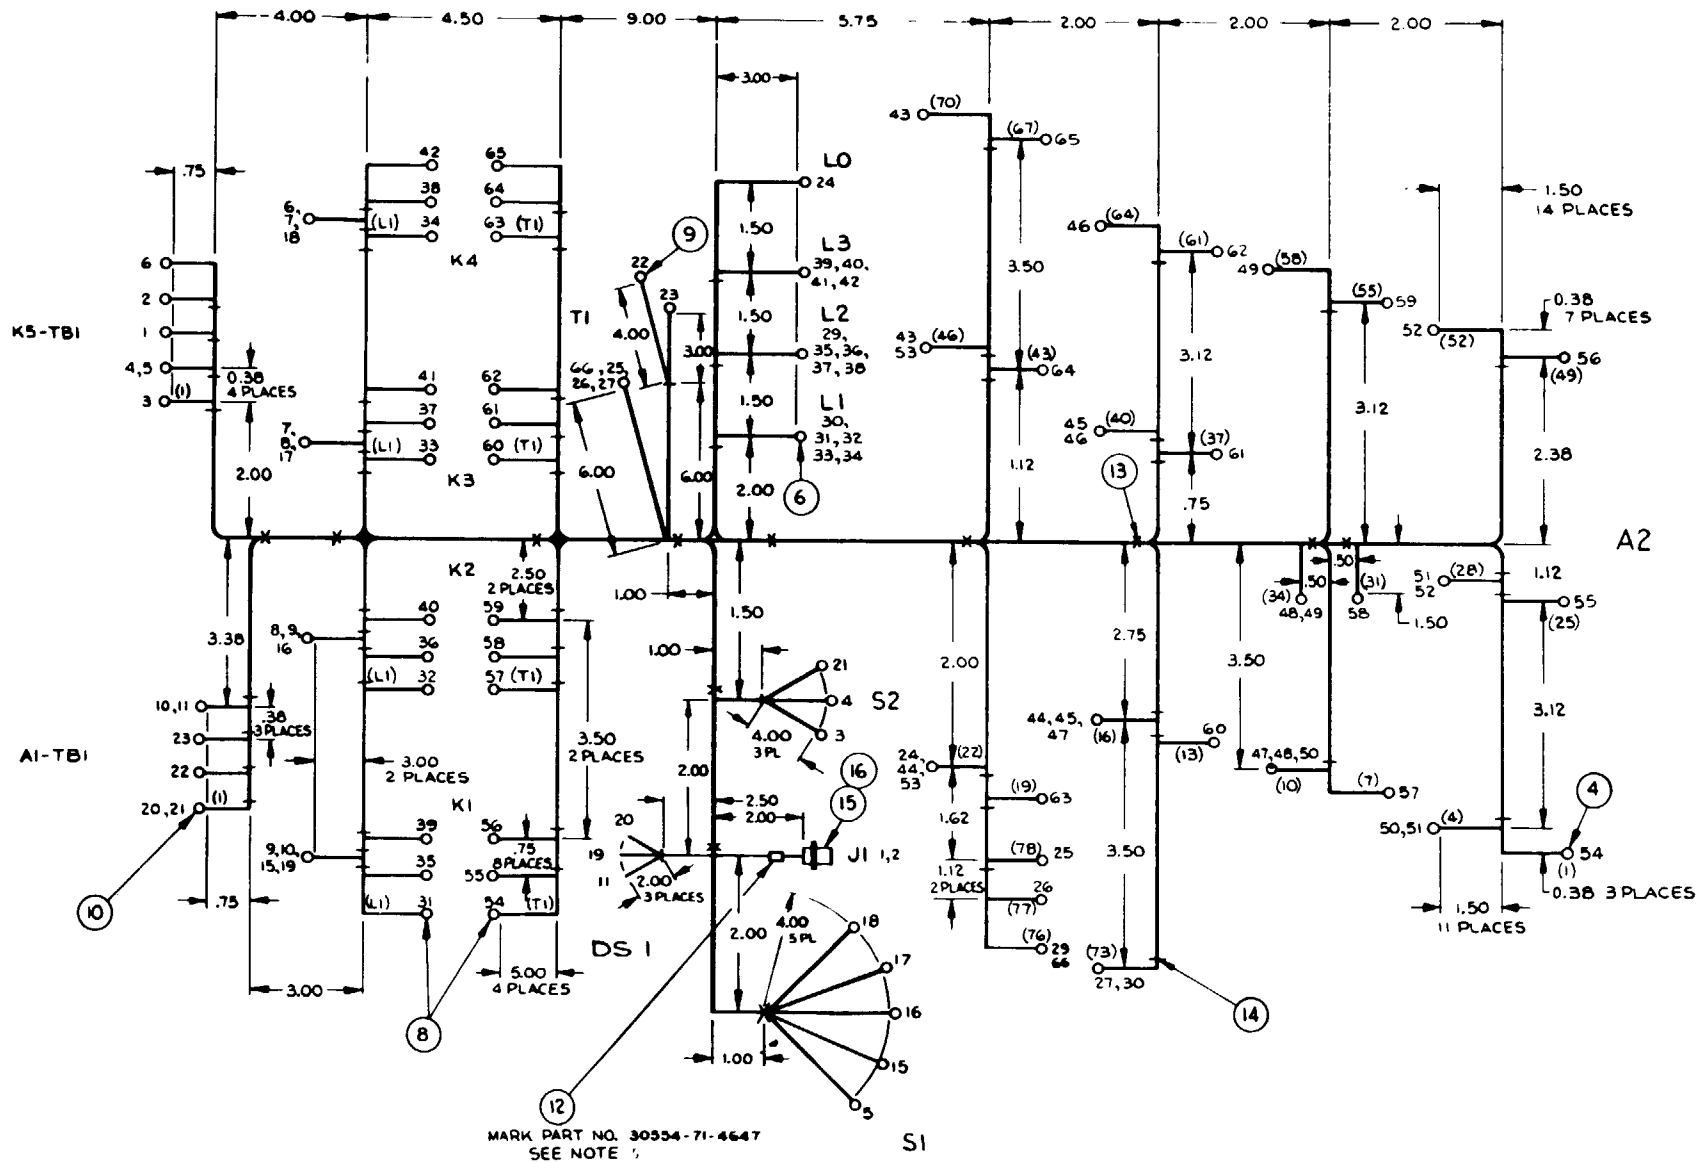

Figure 13-7. Dummy load kit control box harness (sheet 1 of 3)
- a. Inspect harness wires for defective or loose terminal lugs and defective insulation. Check each wire for continuity, refer to figure 13-7. Check connects for bent, loose, or missing pins and for shorts from case to pins and pins to surrounding pins.